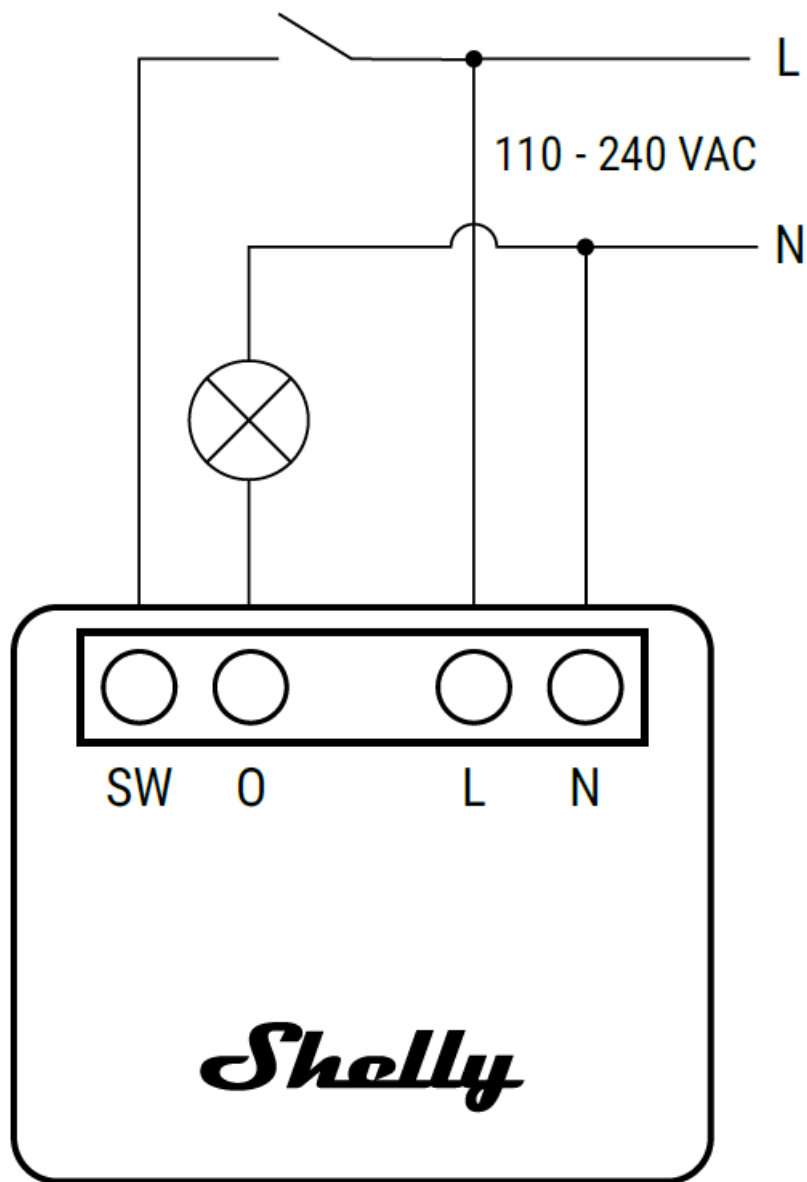

Fig. 1
- Connect the load to the O terminal of the Device and the Neutral wire, as shown in Fig. 1. Connect the Live wire to an L terminal of the Device.